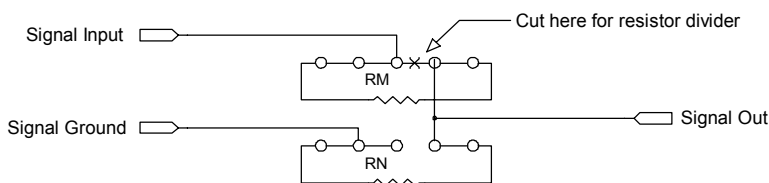

Figure 3.
To configure a current input, place a resistor in the location on the termination board corresponding to the input pin being reconfigured. Figure 3 and Table 1 show resistor placement. The appropriate size for this resistor can be calculated using Ohms law, given the maximum input current and the input voltage range of the iDSC board.
Once this trace is cut, the resistors for the voltage divider are soldered into place. The resistor on the ground side of the divider is placed in an even numbered resistor location and the resistor on the input signal side of the divider is placed in an odd numbered resistor location. Figure 3 and Table 1 illustrate resistor placement for each input.
* The current input resistor is placed in the RN location shown in Figure 3.
** The first voltage divider resistor is on the ground side of the voltage divider (RN) and the second is on the input signal side (RM). For example, R2 is RN and R1 is RM. Figure 3 shows the resistor placement.
Figure 3 and Table 1 can be used to locate the appropriate resistors when using either the current input or voltage division configuration. Figure 3 shows schematically how the inputs and grounds on the termination board are connected.